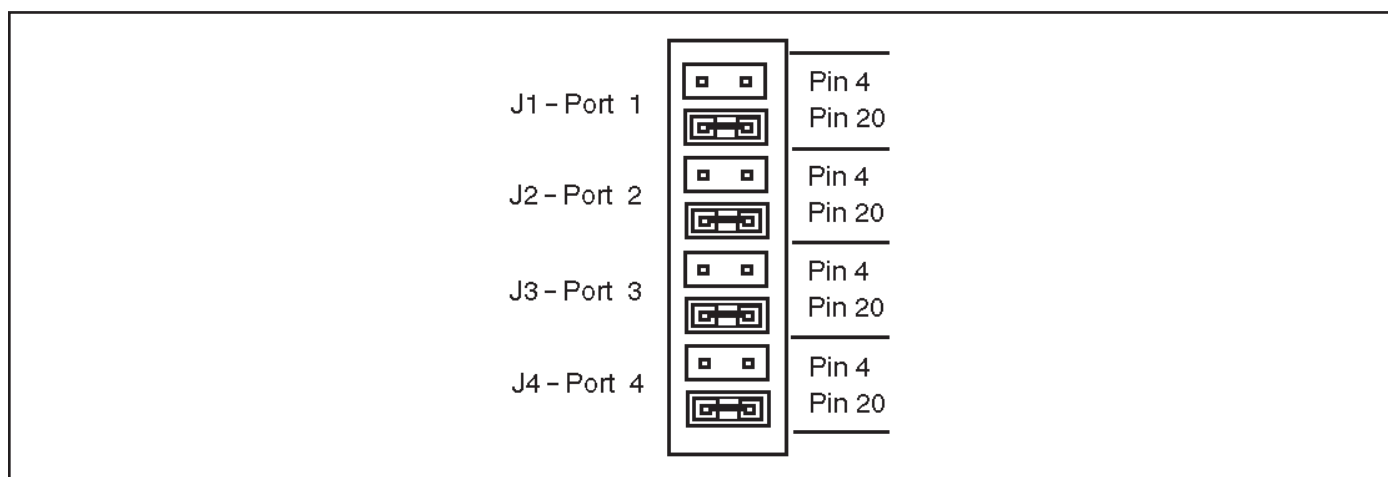

Figure 4.1: Jumper Positions for Pin Selection
3. Locate the jumpers on the CAS-41A circuit board. As you face the instrument back panel, the jumpers are located in the lower left hand corner of the circuit board. Figure 4.1 describes the jumper settings for selecting Pin 4 or Pin 20.